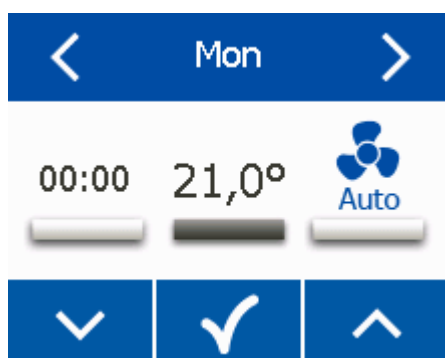

Fig. 88: Setting the room temperature
6. ▶ On the screen in Fig. 88 set the room temperature using the ▼ and ▲ buttons; then confirm your entry by clicking ✓.